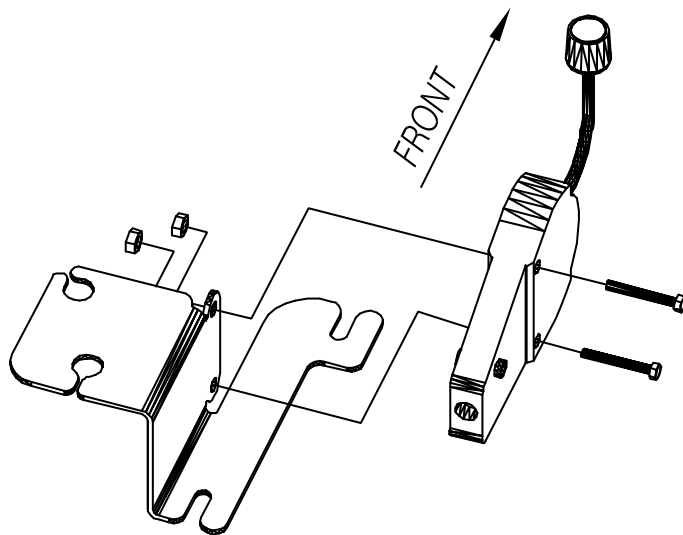

FIGURE 1
3. Fasten the control tower bracket to the floor (fasteners not supplied with kit). Refer to Figure 1.